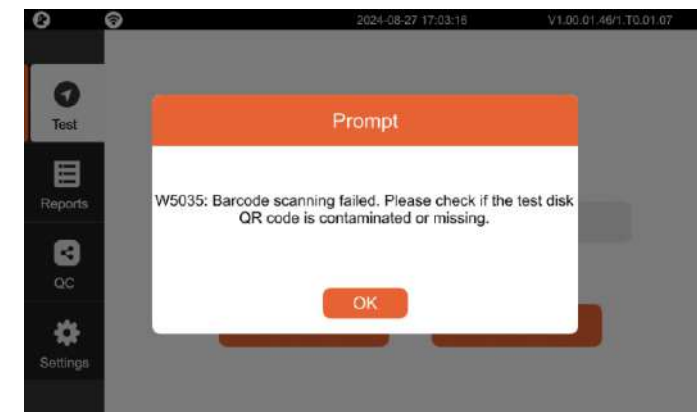

Figure 5-6
If the analyzer failed to read QR code, the screen will show a message as Figure 5-6.
- 5) When it shows "W5035" error code as Figure 5-6, please click "OK" icon to open the drawer. Check the QR code on reagent rotor to make sure it is intact and uncontaminated. If no, please contact technical support.